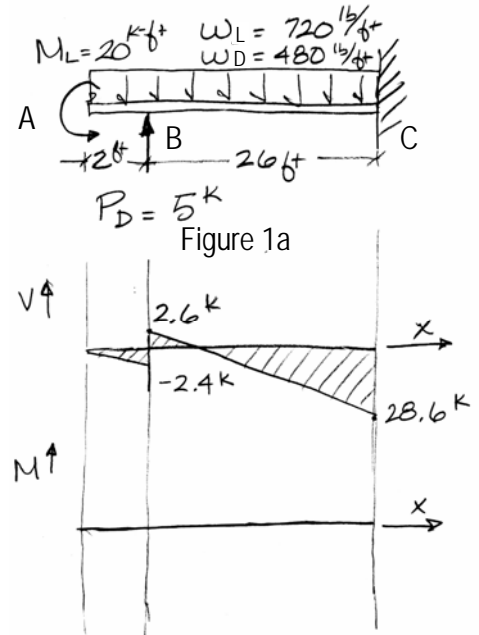

Figure 1a
- A 28 ft beam with live (including a moment) and dead loading is shown in Figure 1a.